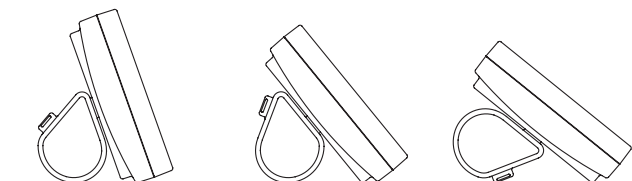

FIG. 89
2. The angle may be adjusted by reorienting the support in the battery cover (See Figure 89).